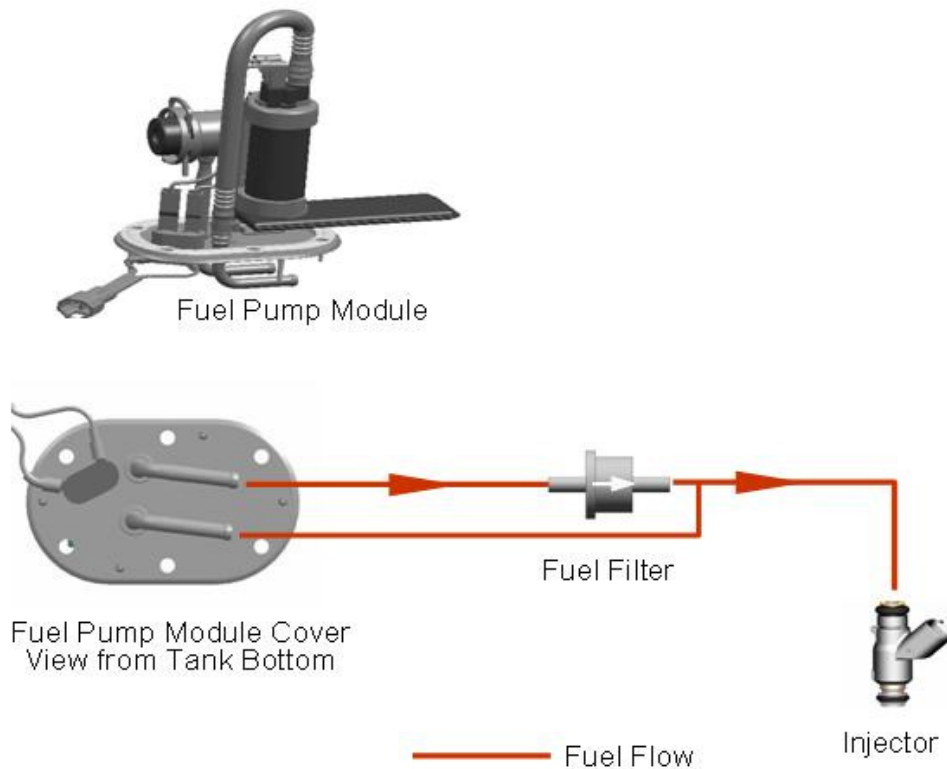

Figure 28
- Fuel Hose connections needs to be installed according to the fuel flow diagram shown in Figure 28